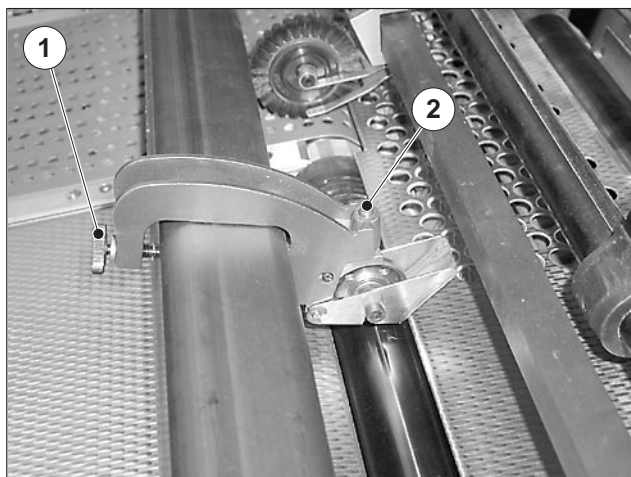

Fig. 57 Feeler roller
1. Set the feeler roller (Fig. 57) onto the cross bar and push it to the required position.
2. Secure the feeler roller on the cross bar with the knurled head screw (Fig. 57/1).
3. Adjust each feeler roller at the stud (Fig. 57/2) such that it just follows the suction tape drive roller.